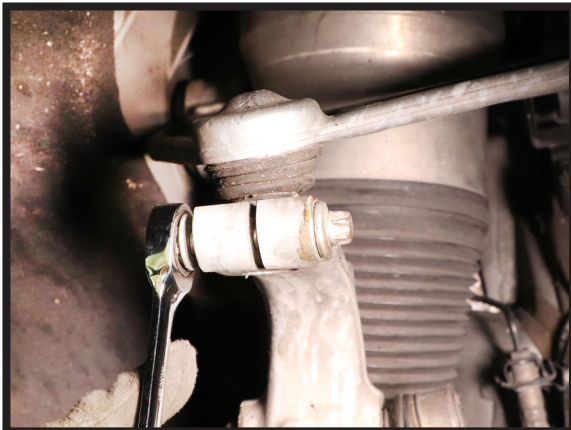

FIGURE 13
10. REMOVE BOLT AND NUT FROM SPINDLE AND DISCONNECT. (FIGURES 13, 14)